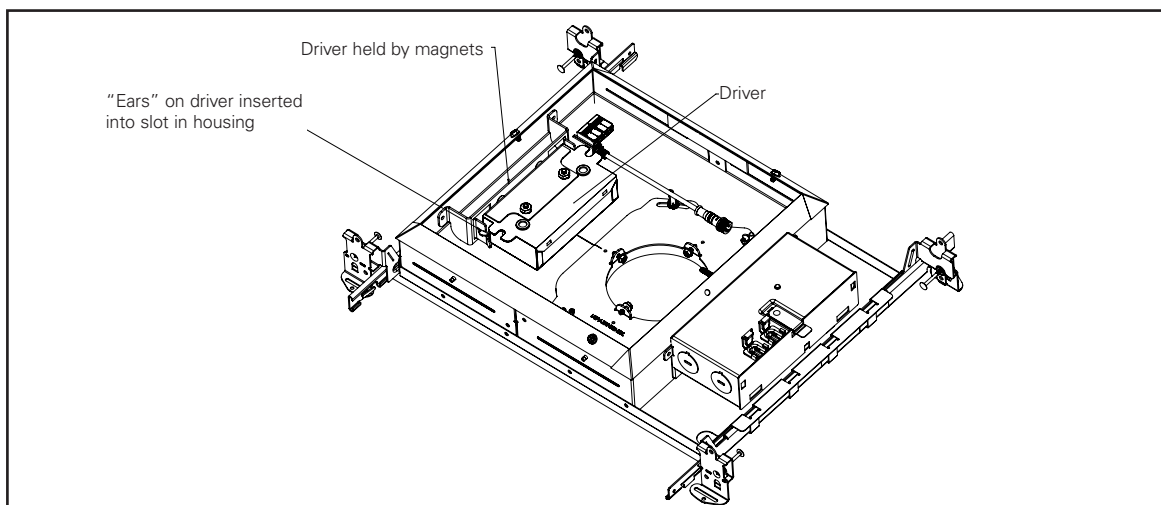

Figure 23.
5. Reach into the ceiling and locate the driver. Hold and pull the plug-in driver box assembly until it disconnects (Figure. 23).